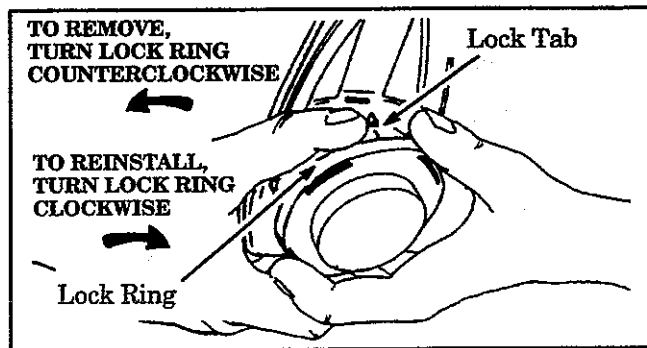

Figure 11
- b. Hold the unit as shown in Figure 11. Press the lock tab and turn the lock ring counterclockwise. Figure 11.